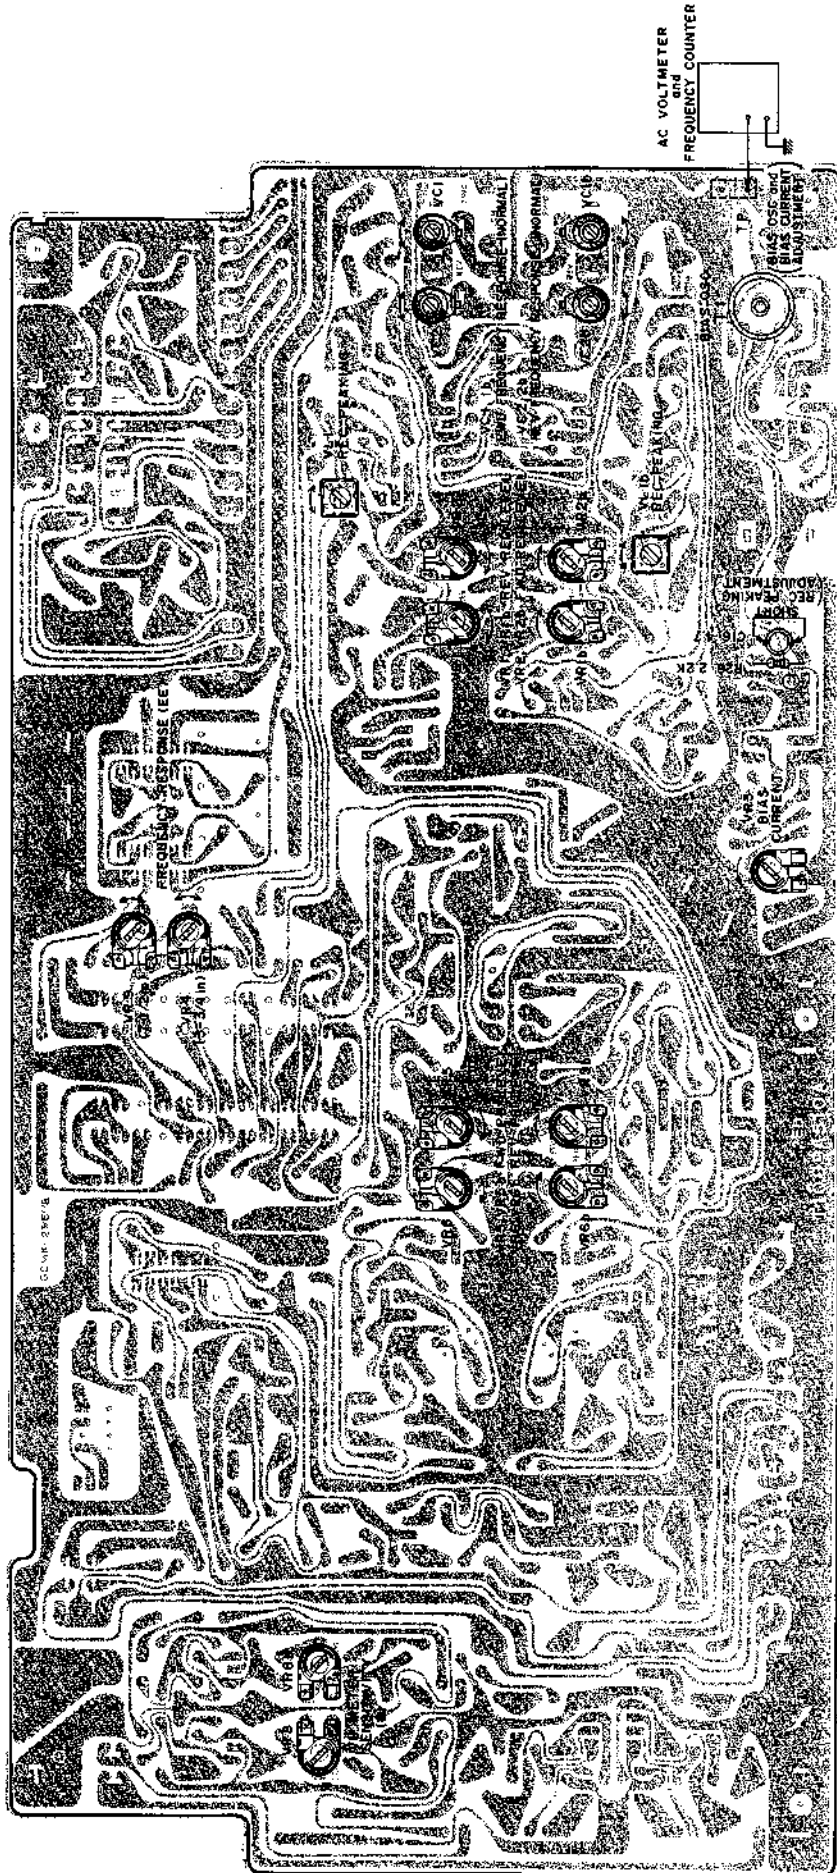

Fig. 49 Pre Amp P.C Board T1009A510A
6. Stop Recording bias oscillator while making Rec Peaking adjustment (Refer to Fig. 49).